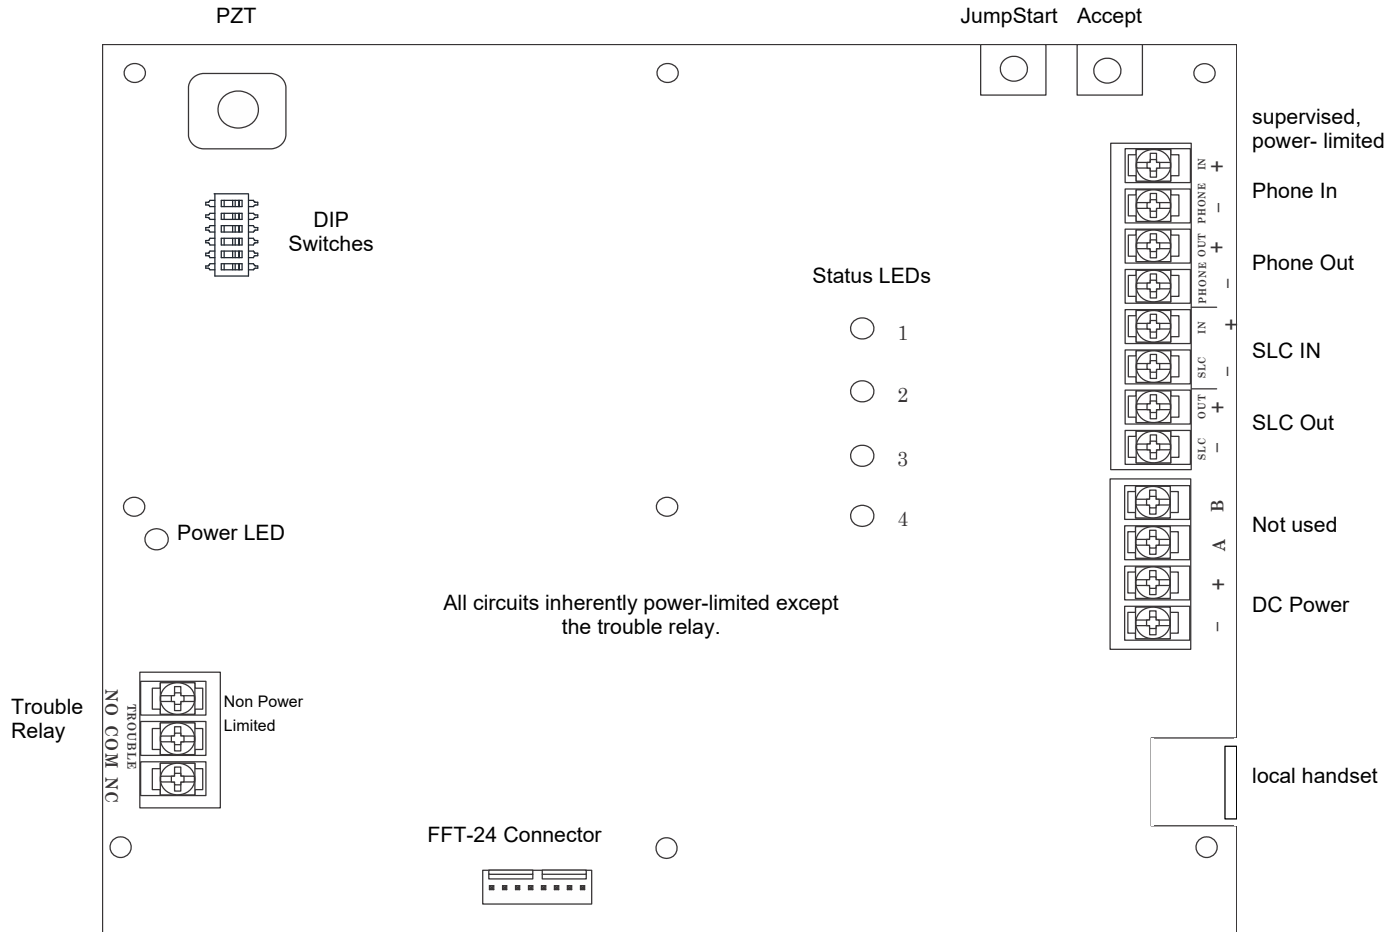

Figure 3.7 Back View of SK-FFT
1. Refer to Figure 3.7 to identify the location of the DIP switches located on the SK-FFT board.